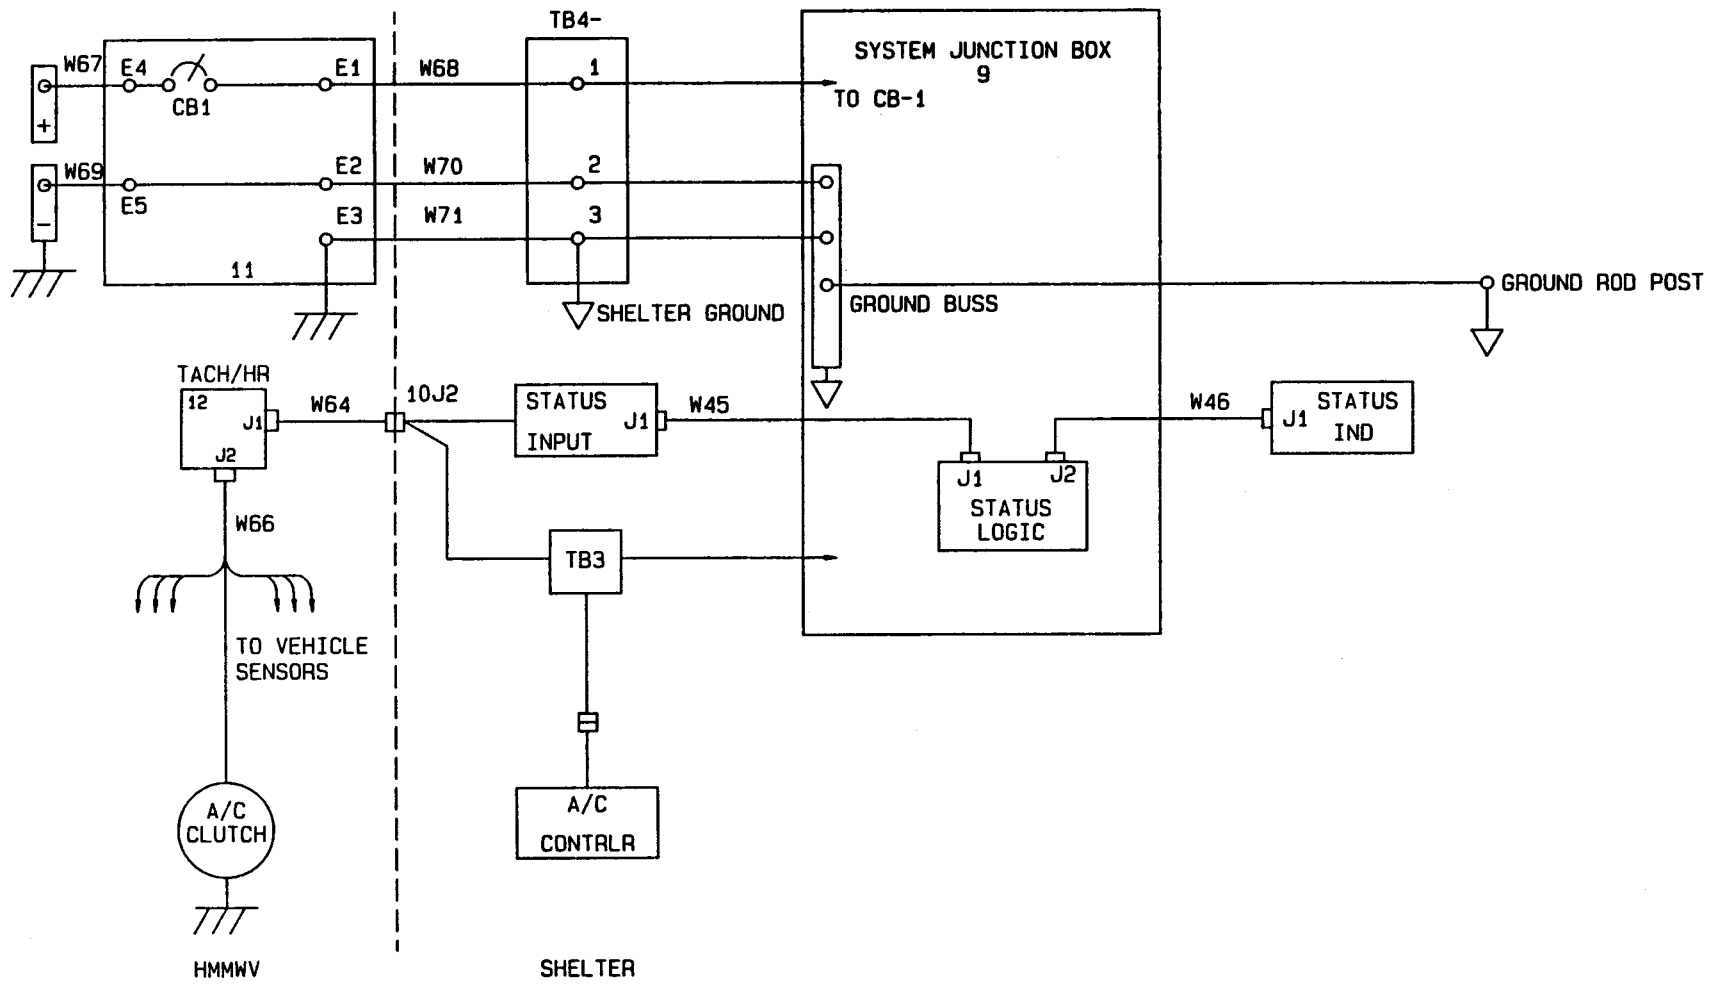

Figure 3-1. Status Warning System
(1) Question operator to obtain any information that might help you determine the cause of the problem.
(2) Never overlook the chance that the problem could be of simple origin. The problem could be corrected with minor adjustment.
(3) Use all senses to observe and locate troubles.
(4) Use test instruments or gages to help you determine and isolate the problem.
(5) Always isolate the system where the malfunction occurs and then locate the defective component.
(6) Review figure 3-1 to help in isolating the fault and understanding the equipment configuration.
4. WITH PARKING BRAKE NOT SET, PARKING BRAKE DASH LIGHT IS OFF, AND STATUS INDICATOR ALARM AND LIGHT DO NOT COME ON (REFER TO FIGURES 3-1 THRU 3-3)